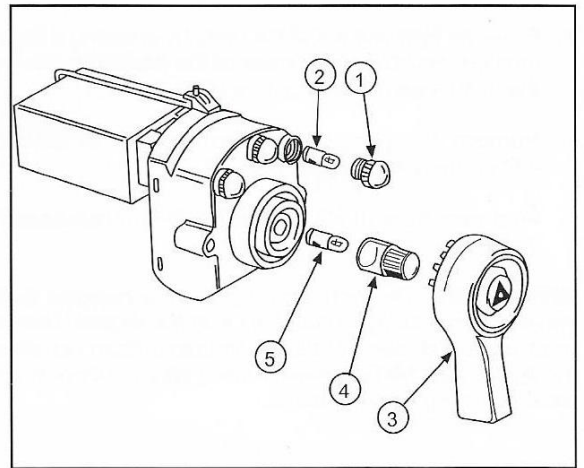

Fig. 121
1. Unscrew the green lens (1, Fig. 121).
2. Pull the bulb (2) from its holder.